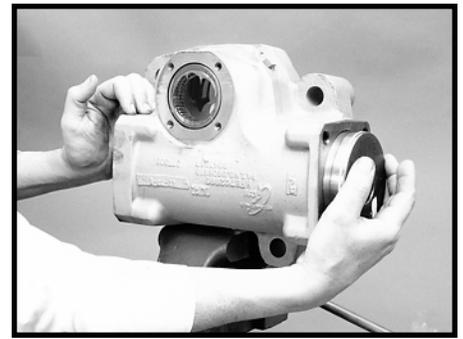

Figure 70
32. Remove the rack piston (29) worm shaft/ input shaft (16) assembly from the gear housing (19). SEE FIGURE 70. Lay the rack piston (29) worm shaft (6) assembly on a clean rag to keep the piston from rolling.
**NOTE: The worm shaft part of the assembly will be inside the rack piston, with the input shaft part of the worm protruding from the rack piston. Take care when removing this assembly from the housing. To prevent the teflon rack piston seal (36) from getting caught in the sector shaft cavity, remove the worm shaft rack piston assembly from the long end of the housing.**